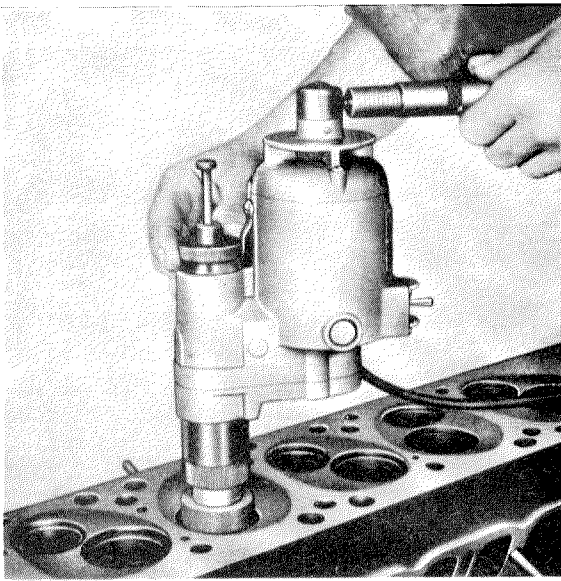

Fig. 01 — 5/17
0.1 mm in width or should be made at an angle of  $120^\circ$  or  $150^\circ$  (see Figs. 01 — 5/12 and 01 — 5/13).
c) **Machining of the valve seat with an eccentric valve seat grinder (Fig. 01 — 5/17).**